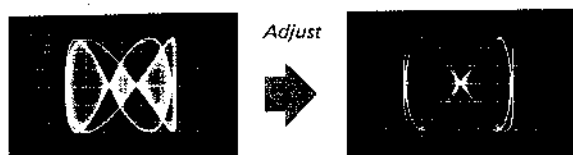

Fig. 3-12. Lissajous pattern
3. Turn the pilot-signal (19 kHz) phase control to obtain an in-phase and stable lissajous pattern as shown in Fig. 3-12.